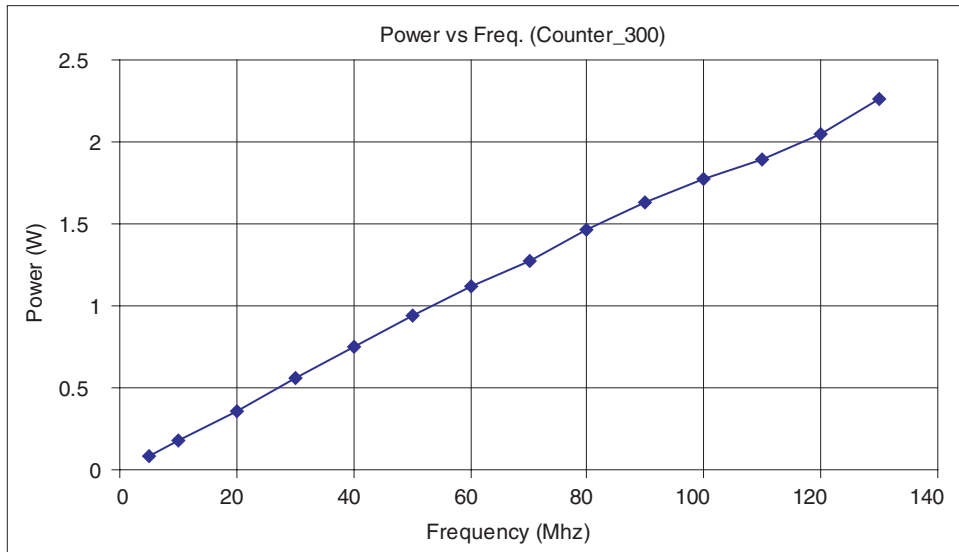

Figure 20: Power Consumption
Figure 20 exhibits the power consumption in an Eclipse QL6500 device. The chip was filled with (300) 8-bit counters—approximately 76% logic cell utilization.